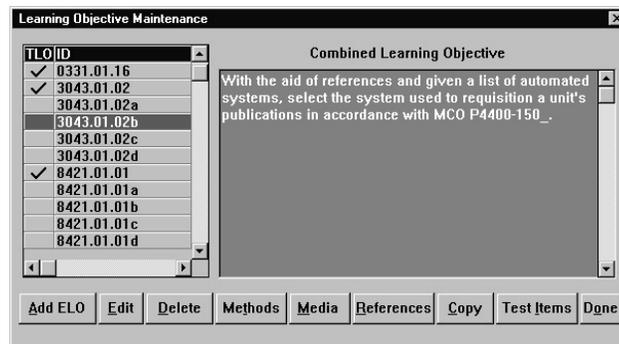

Figure 6-43. Learning Objective Maintenance
1. From the Maintenance drop-down menu, choose Learning Objective. The Learning Objective Maintenance selection list box (Figure 6-43) opens.
1. From the Learning Objective Maintenance selection list box (Figure 6-43), click on the TLO to which you will add a supporting ELO. MCAIMS identifies TLOs by a check mark in the TLO column..
1. From the Learning Objective Maintenance selection list box (Figure 6-43), highlight the TLO you wish to edit.
1. From the Learning Objective Maintenance selection list box (Figure 6-43), highlight the ELO you wish to edit.